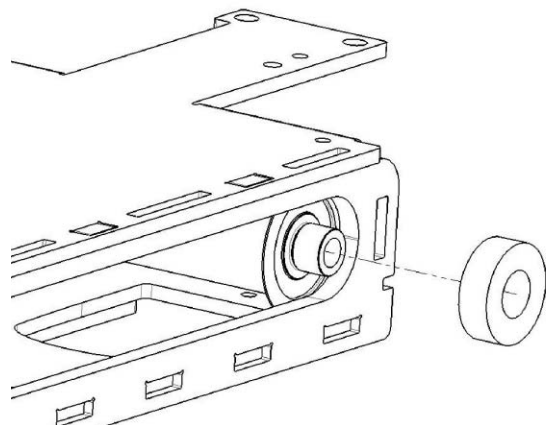

Fig. 11. Remove the bearing on the opposite side.
12. Remove the bearing on the opposite side. See fig. 11.